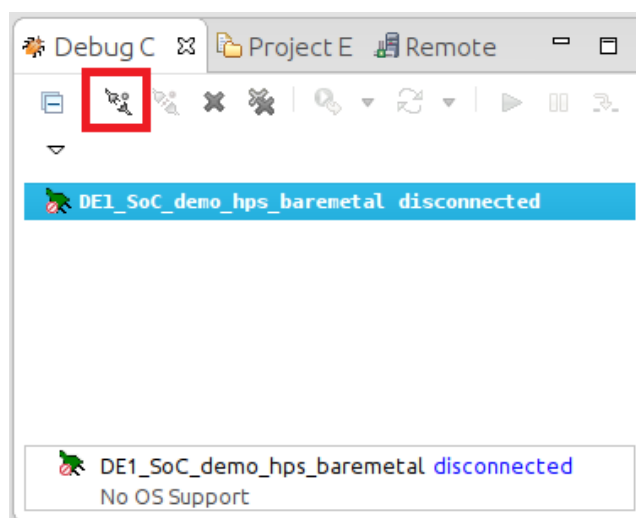

Figure 8-41. Debug Control View
23. In the "Debug Control" view, click on the "DE1_SoC_demo_hps_baremetal" entry, then click on the "Connect to Target" button, as shown on Figure 8-41. Our debug script will load and execute the preloader, then it will load and wait at our application's "main()" function.